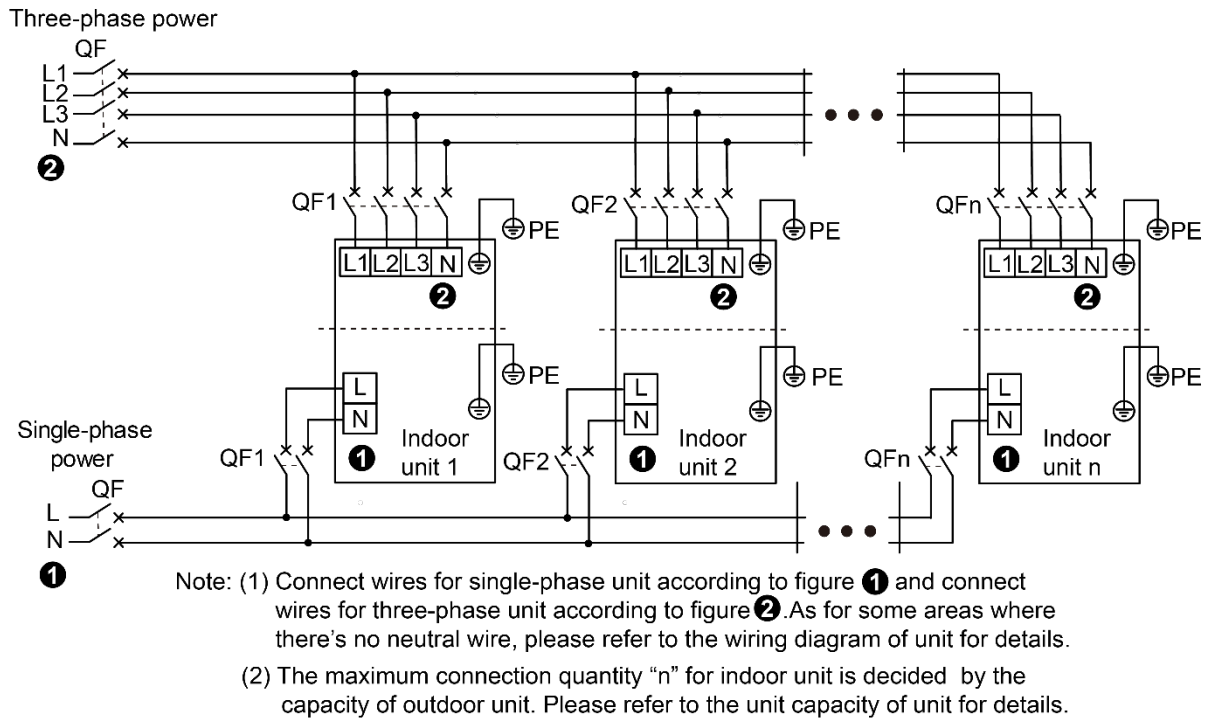

Fig.5.2
- (1) Detach the electric box lid.
- (2) Let the power cord pass through the wiring through-holes.
- (3) Connect wires according to Fig. 5.2.
- (4) Fix the power cord with wiring clamp.